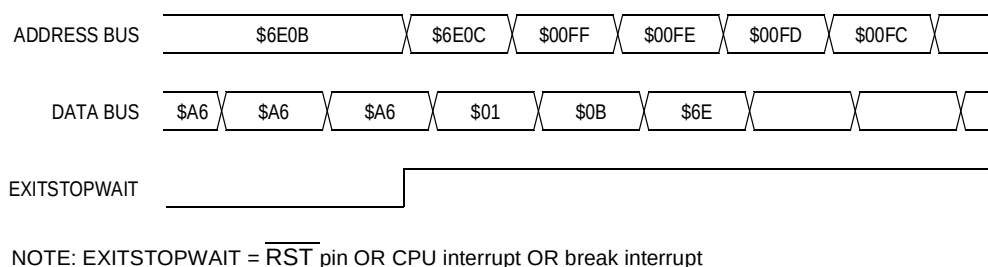
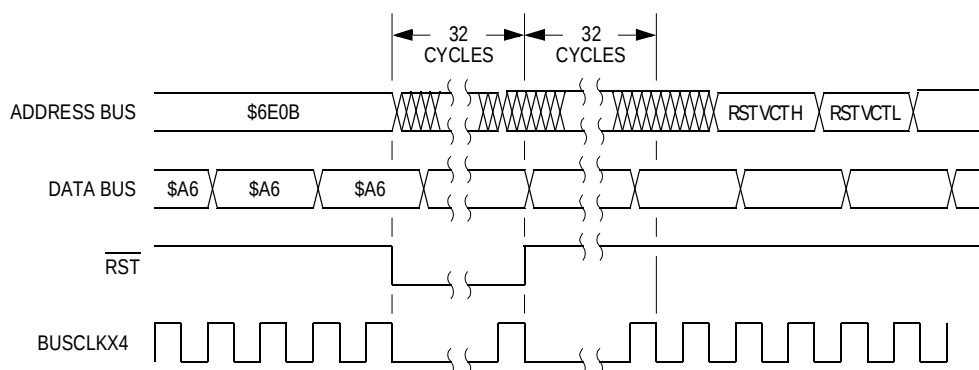

**Figure 7-16. Wait Recovery from Interrupt or Break**
**Figure 7-17. Wait Recovery from Internal Reset**
**Figure 7-16** and **Figure 7-17** show the timing for wait recovery.